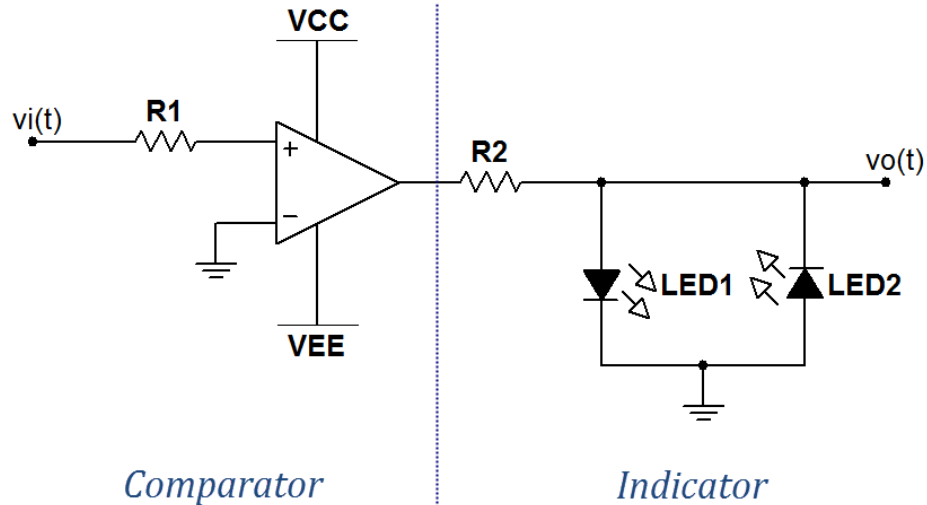

Figure 2.1: Circuit for Problem 2.1 on the previous page
Figure 2.1 on the following page shows a *comparator* constructed from an operational amplifier. Note that no feedback path exists from the op amp output back to any of its inputs, therefore this is an example of an *open-loop* circuit. The comparator serves as a basic component of analog-to-digital converters by comparing the continuous analog signal to a voltage threshold to produce a high-level voltage when the signal exceeds the threshold and a low-level voltage otherwise. The LED indicator circuit serves the dual role of showing the output state of the comparator and limiting the output voltage to a range that can be measured by the NI myDAQ analog output.
Enter the circuit of Figure 2.1 using the TL072CP op amp model. Place the V_{CC} and V_{EE} power supplies and set their values to +15 V and -15 V. Use LED_green and LED_red for the LEDs.
1. Build the circuit of Figure 2.1 on the preceding page. Use AO0 to create v_i . Set up the NI ELVISmx Function Generator to create the triangle waveform described in the problem statement. Use the NI ELVISmx Oscilloscope to display $v_i(t)$ and $v_o(t)$.